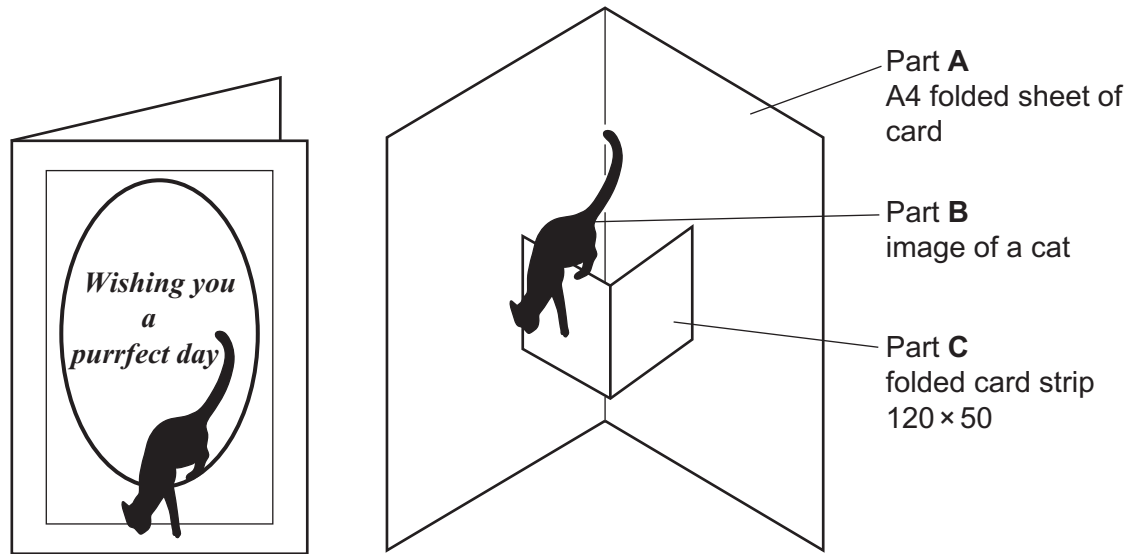

Fig. 2.1
- 2 Fig. 2.1 gives details of a pop up card which is to be made in a school workshop.